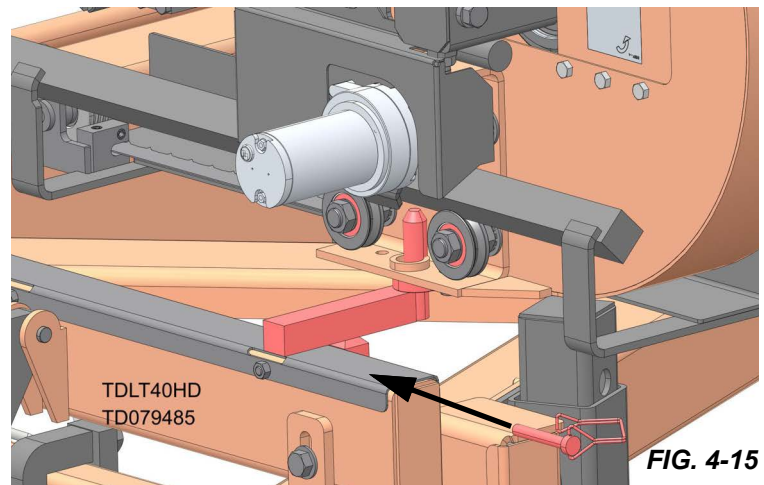

FIG. 4-15
10. Lower the saw head until it is seated firmly on the rest pin (shown in red on FIG.4-15).